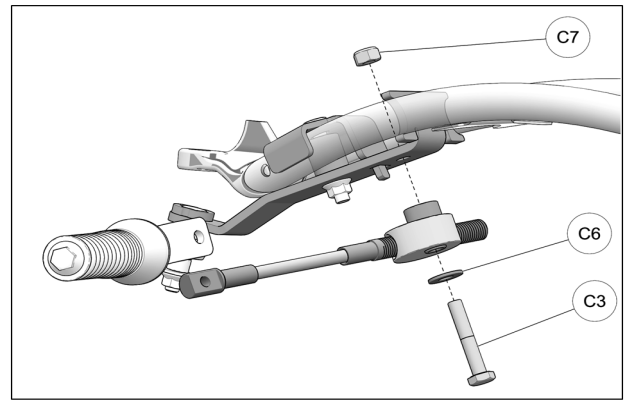

Fig. 20
12. Insert bolt (**C3**) in the anchor bracket's remaining free hole. Slip steering limiter cable assembly over bolt (**C3**) and use washer (**C6**) and nut (**C7**) to secure assembly to anchor bracket. Tighten nut to 50 N•m [37 lb•ft]. Refer to Fig. 20